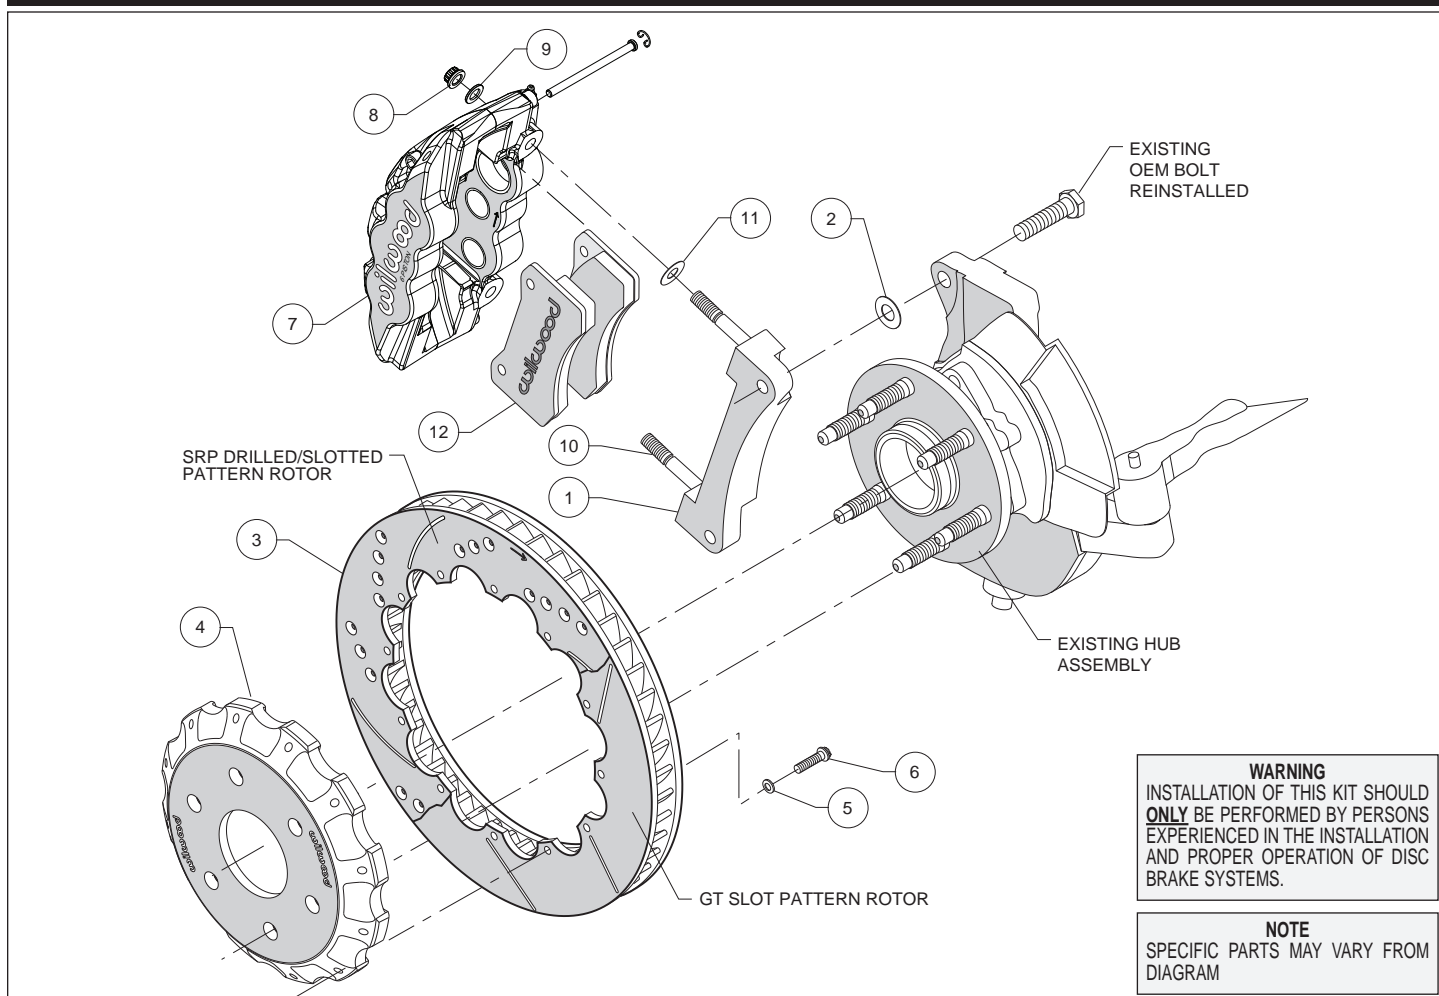

Figure 1. Typical Installation Configuration
- Install one shim (11) over each stud (10) on the radial mount bracket (1). Slide the caliper (7) in place over the studs and rotor and install the washer (9) and lock nut (8) to hold the caliper in place. The caliper bleed screws should be pointing up. Snug the lock nuts (8) and check that the rotor (3) is centered in the caliper (7). Add or subtract .029" shims (2) as necessary between the caliper mount bracket (1) and the caliper mount bosses on the spindle to center the caliper (7).
- Remove the two pad retaining pins from the caliper (7) by carefully popping out the pin retaining clips and sliding out the pins. Insert the brake pads (12) into the caliper from the bottom, Figure 1. With the friction material facing the rotor, secure the brake pads in place with the pad retaining pins and clips. Reinstall the caliper onto the caliper mounting bracket and temporarily tighten the lock nuts. Check that the top of the brake pad is flush with the outside diameter of the rotor. If not, adjust by adding or subtracting shims (11) between the caliper and the bracket.
- Once all clearances have been checked, remove the wheel, caliper and rotor from the spindle and hub. Secure the caliper mounting bracket (1) to the spindle using red *Loctite*® 271 on the bolt threads. Torque the bolts to manufacturer's specifications. Reinstall the rotor and again use several lug nuts to hold it in place. Lubricate caliper mounting studs and nuts with lightweight oil, reinstall the caliper, torque the caliper nuts (8) to 47 ft-lbs.